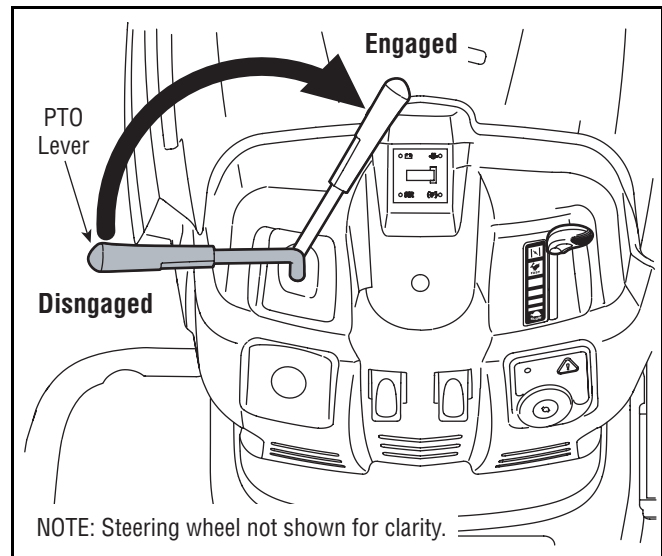

Figure 10
2. Grasp the PTO (Blade Engage) lever and pivot it all the way forward into the engaged (ON) position. See Figure 10.